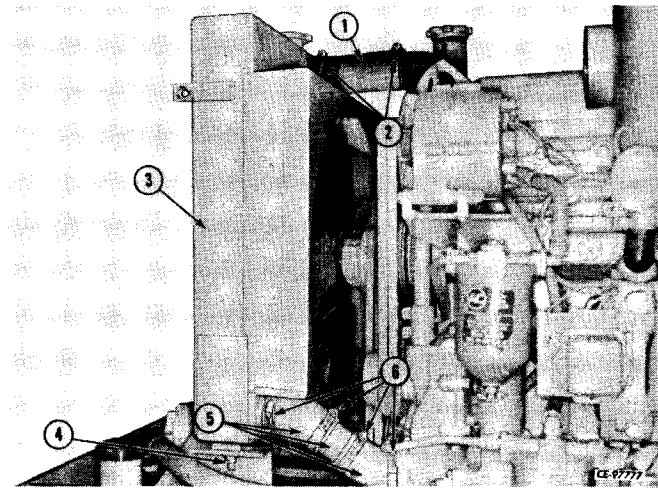

Figure 2-6
Loosen hose clamps (2, 6, Fig. 2-6) and remove hoses (1, 5). Remove special nuts (4), on each side, and remove radiator (3).
Slowly lower radiator (3, Fig. 2-6) into position on its mounting brackets. Move fan blades until cowling of radiator permits installation. Install and tighten nuts and washers (4). Position hoses (1, 5) between radiator and engine and tighten hose clamps (2, 6). Close radiator petcock and fill radiator with fresh or clean engine coolant. Refer to "LUBRICANTS AND CAPACITIES" under "SERVICE INFORMATION" for recommended engine coolant.